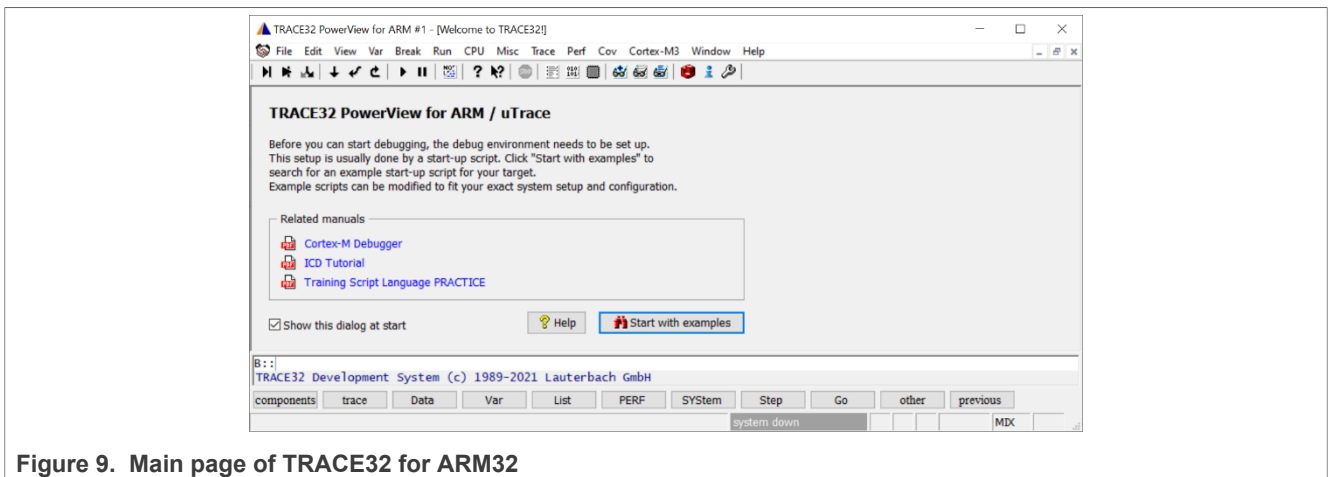

Figure 9. Main page of TRACE32 for ARM32
- Figure 9 shows the main page of TRACE32 for ARM32. If the status bar at the bottom of the main page shows **power down** instead of **system down**, check the power supply of the debugger and the connection with the JTAG interface of the MAX board.